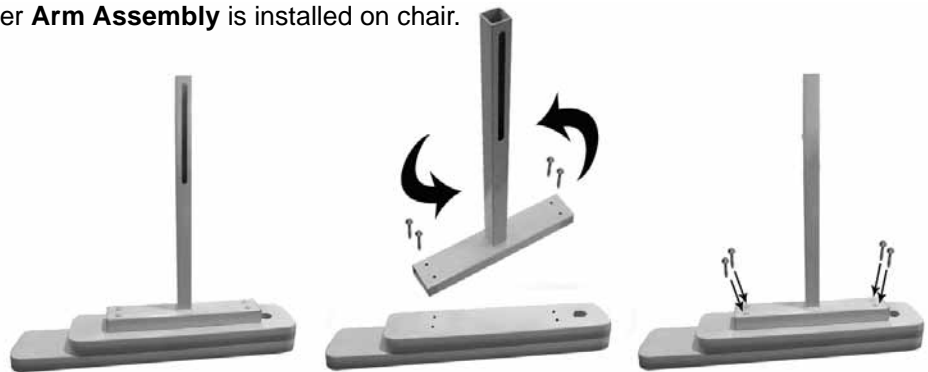

FIG. 1
1. If you wish to change the standard setup of the **Pivot Arm (FIG. 1)** so that the pivot point is toward the front of the chair; Proceed to the next step – IF NOT – skip this step.